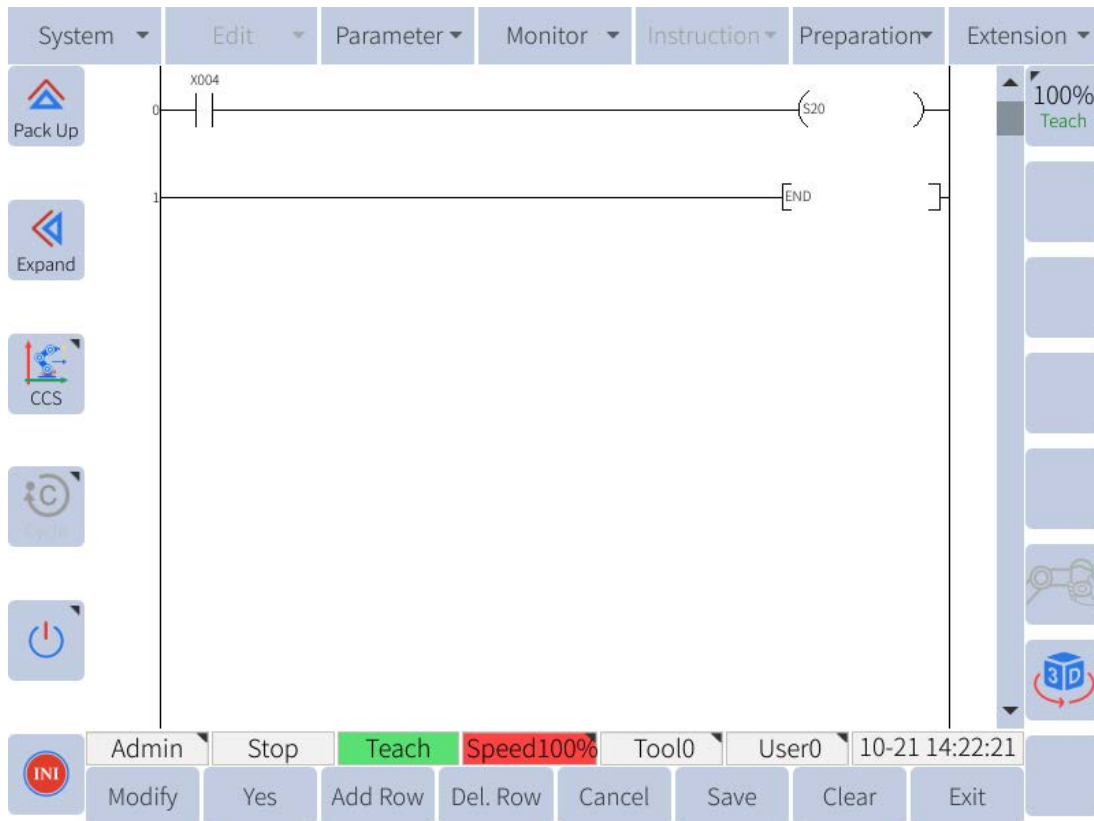

Figure 10-8 : PLC example of external button
**Figure 10-8** shows an example of a PLC program where the user can connect an external button to mark, drag or record the robot.